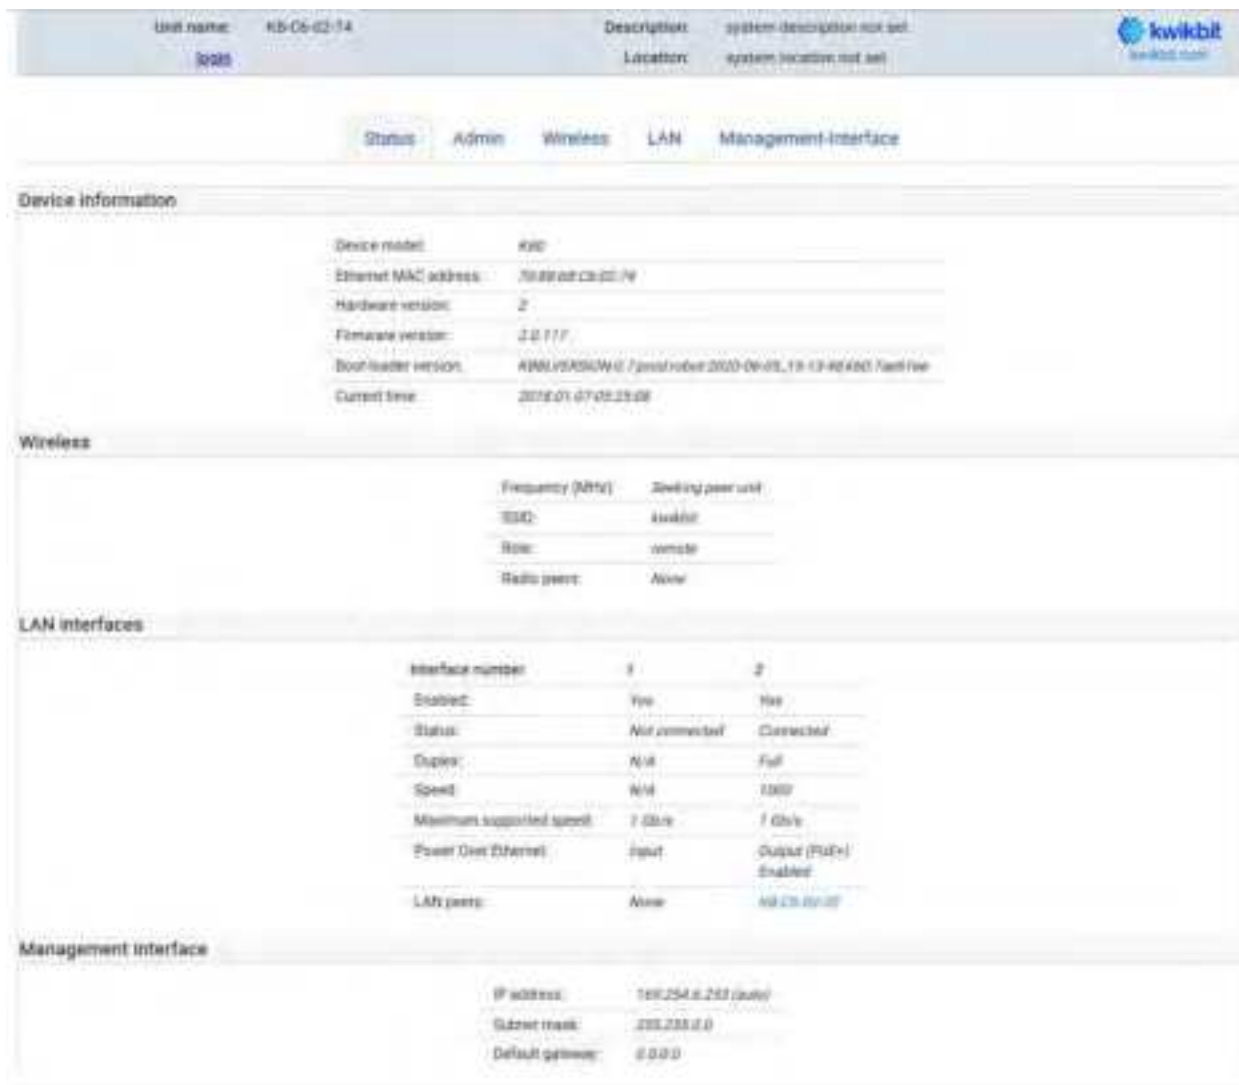

Figure 2: K60c Hub and Remote WebUI interface page
1. Device configuration information and status is displayed on the WebUI page interface as shown above in Figure 2. When the mouse cursor is hovered over an Ethernet Port or wireless connections icon, detailed information is displayed. In the Wireless section, the list of wirelessly connected devices is displayed. The list of LAN connected devices is displayed in the LAN Peers section. The WebUI of a connected device is established by clicking on the device's name.